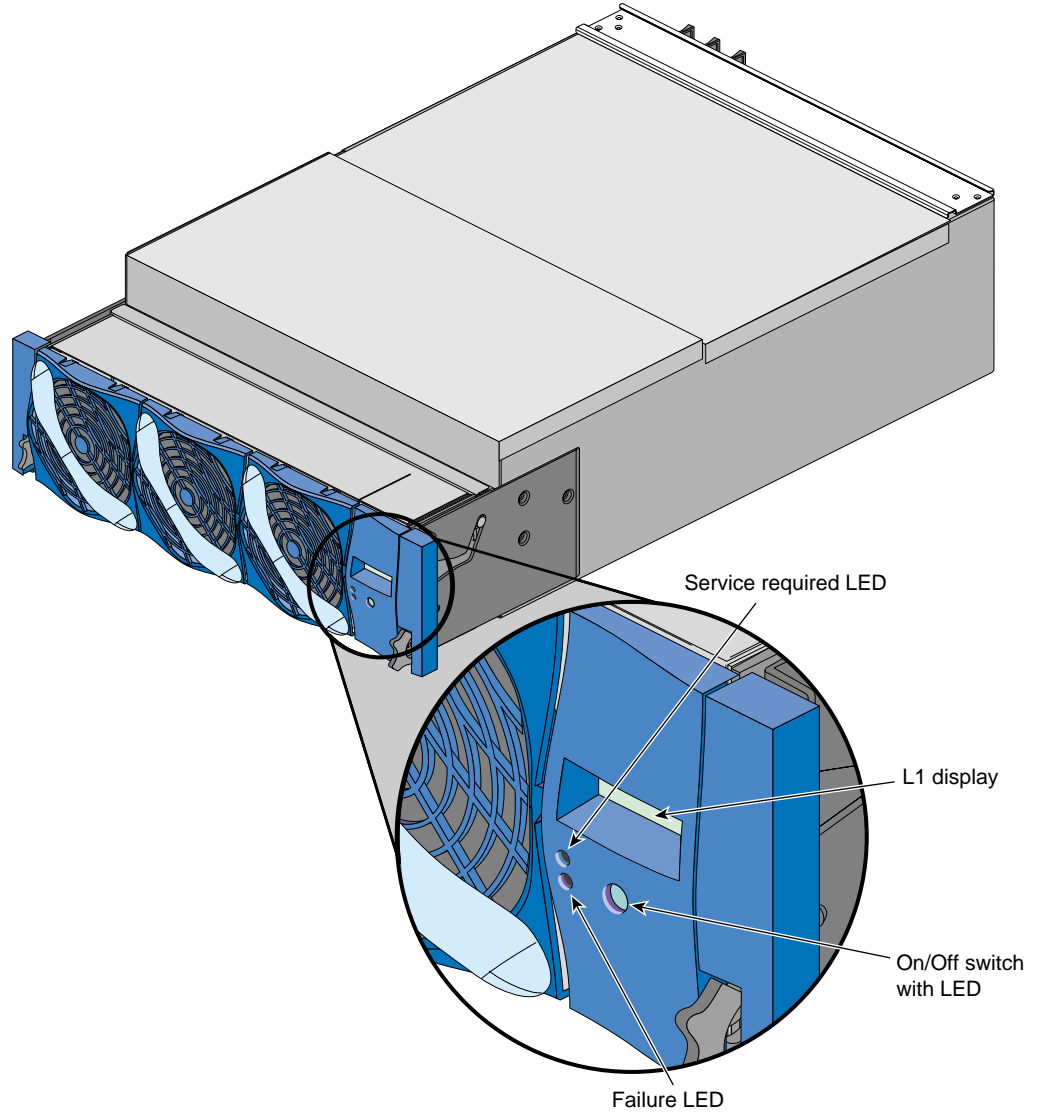

Figure 2-12 On/Off Switch with LED at Front of Module
To power on your PCI expansion module by using the power switches, press the On/Off switch that is located on the front of the module (see Figure 2-12). The 48-VDC LED (rear of module) and the On/Off LED (front of module) illuminate when the module is powered on.
1. Press the On/Off switch that is located on the front of the module (see Figure 2-12 on page 31). The 48-VDC and On/Off LEDs should not be illuminated when the module is powered off.